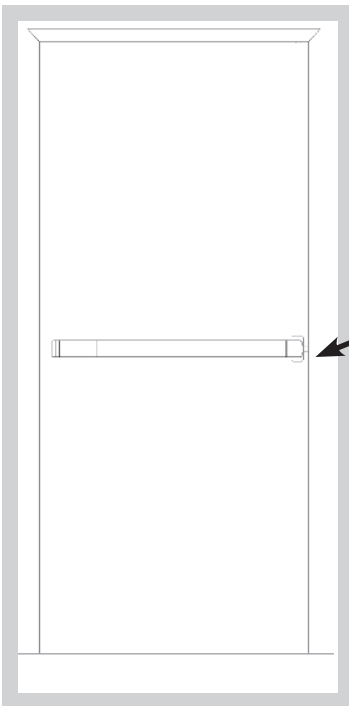

Fig. 20
- 3 Drill and tap through frame and reinforcement for hardware attachment (Fig. 20).